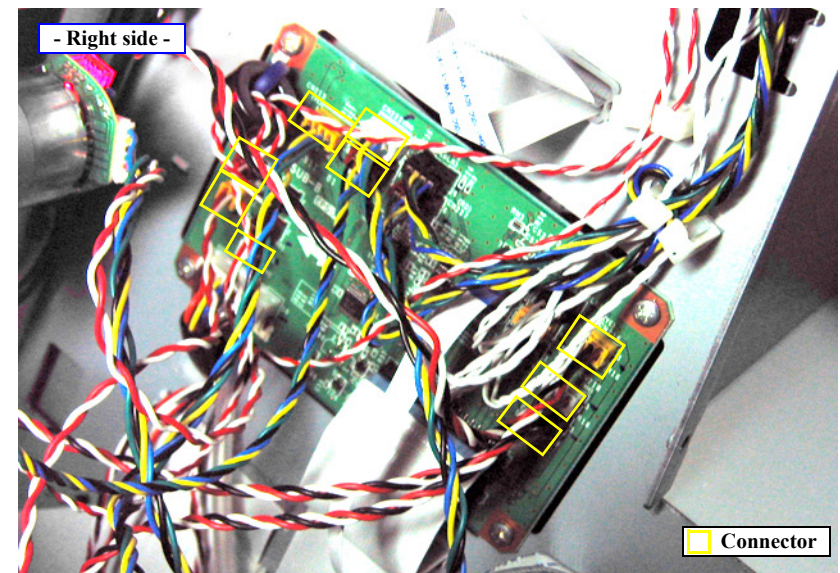

Figure 4-107. Disconnecting the connectors
8. Disconnect the connectors (CN213, CN214, CN216, CN217, CN218, CN221, CN222, CN223, CN224) on the Sub Board Assy; B shown in Figure 4-107. (See Figure 4-52 for the connector locations.)